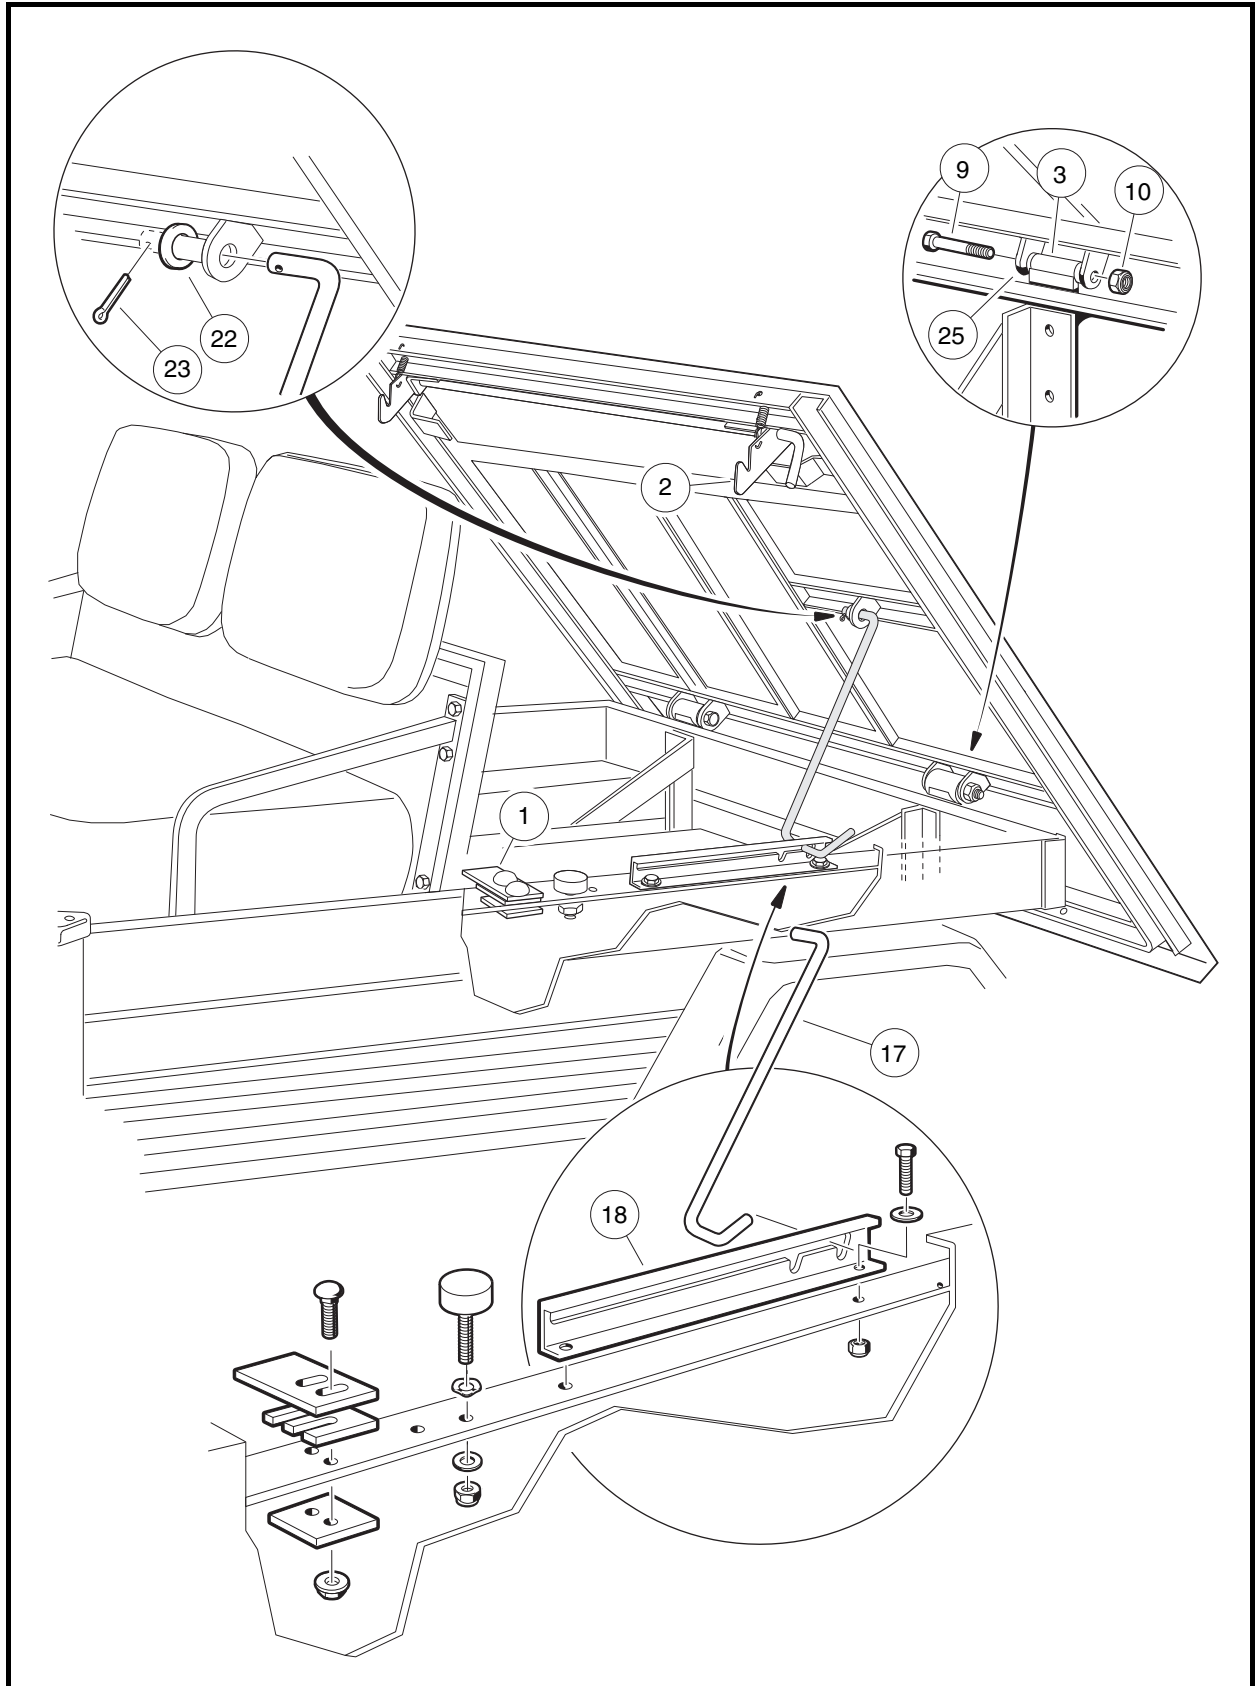

Figure 4-2 Tilt Bed – Turf 1, 2, Carryall 1, 2, and 2 Plus
1. **Turf 2, Carryall 2, and 2 Plus only:** Raise bed and secure prop rod (17) in prop rod track (18). Hold bed securely in an upright position. Remove cotter pin (23) and flat washer (22) from top end of prop rod where prop rod attaches to bed. Remove prop rod (17) from bed and place prop rod between prop rod track (18) and rear body panel. Lower bed onto vehicle frame (**Figure 4-2, Page 4-7**).
2. Remove two lock nuts (10) from left and right hinge assemblies (3 and 25).
3. Apply slight upward pressure (by hand) on the rear of the bed to relieve pressure on the hinges, and remove the hinge bolts (9) from the hinge assemblies.
4. Raise rear edge of bed approximately 6 inches (15.2 cm) and pull bed assembly toward rear of vehicle approximately 3 inches (7.6 cm) to release bed latch assembly (2) from latch plate (1).
1. Hold bed at a slight angle (front of bed lower than rear of bed) to vehicle and place front edge of bed onto vehicle frame. Bed latches (5) should engage with latch plates (1) (**Figure 4-2, Page 4-7**).
2. Lower edge of bed onto vehicle and align hinge brackets (3) with bed hinge (25).
3. Start the bolts (9) into left and right hinge assemblies (3 and 25). It may be necessary to use an alignment tool to align holes in hinge bracket with steel bushing in hinge assembly.
5. Install a nylon lock nut (10) on each bolt (9) and tighten to 15 ft-lb (21 N·m).
6. **Turf 2, Carryall 2, and 2 Plus only:** Lift bed and place the prop rod (17) in bed mounting hole. Install a 3/8-inch flat washer (22) and a new cotter pin (23) on prop rod (**Figure 4-2, Page 4-7**).